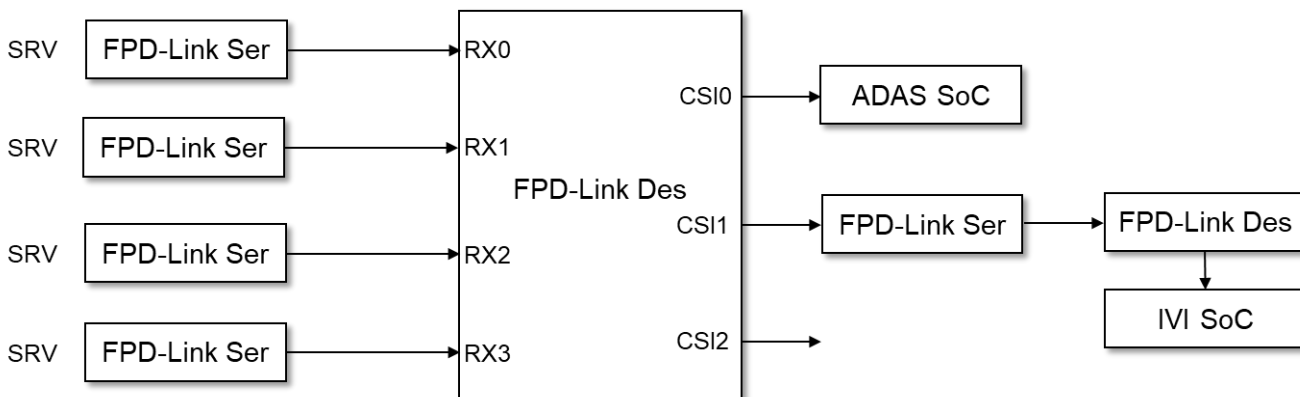

Figure 2-2. Typical Block Diagram of Dual-Stage SERDES Transmission for Automotive 360-Degree Surround View Systems
1. When the ADAS and IVI systems are non-single-board systems, the surround-view camera data is typically sent to the ADAS first, and the ADAS then sends the surround-view camera data to the IVI system through an additional serializer/deserializer, as shown in Figure 2-2.